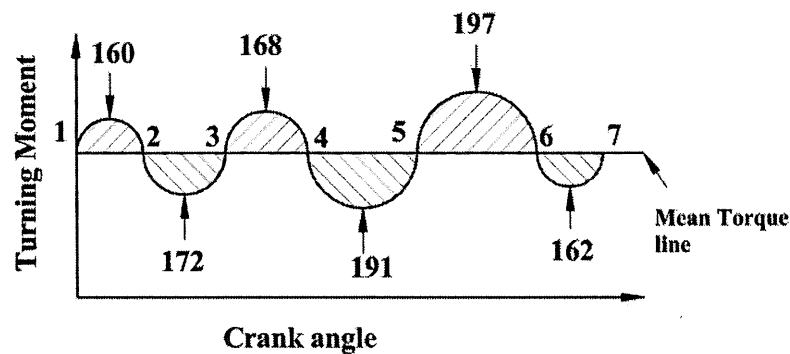

Figure 3
- a) A multi-cylinder engine is to run at a speed of 600 rev/min. Figure 3 shows the Turning Moment Diagram to a scale of 1 mm = 250 Nm and 1 mm = 3°, the areas above and below the mean torque line are: + 160 mm2, - 172 mm2, + 168 mm2, - 191 mm2, + 197 mm2, - 162 mm2 and given coefficient of speed,  $C_s$  is  $\pm 1\%$ . **Compute**